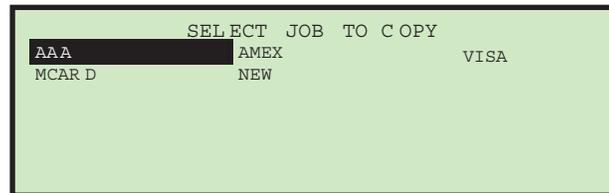

Figure 3-43: Select Job To Copy screen
1. On the Job Menu screen (Figure 3-23), select **COPY**, and press **Enter**. The **SELECT JOB TO COPY** screen appears (Figure 3-43).